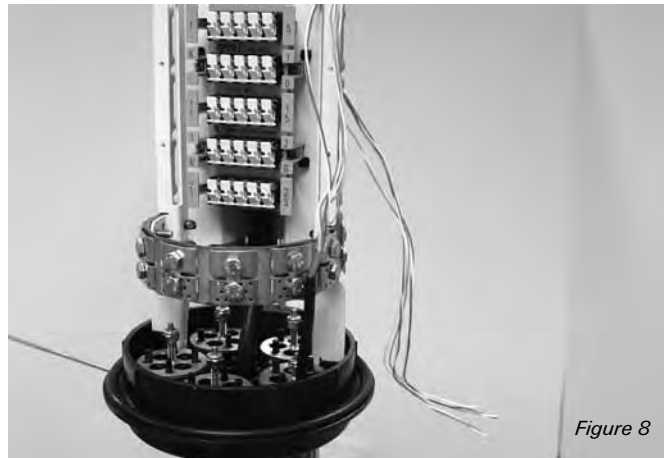

Figure 8
5. Prepare the drop cable, exposing 1" of shield and appropriate length of conductors. (Figure 8)